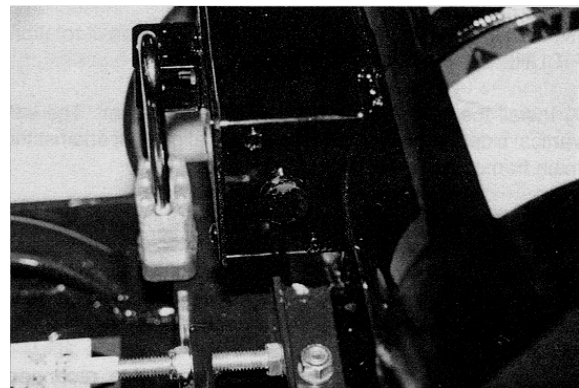

FIGURE 24
5) Providing proper voltage and amperage levels to the electric motor is essential to obtain maximum productivity and service life. Low voltage and amperage levels will cause the motor to overheat. The motor is equipped with an automatic thermal protection device that will stop it before major internal damage can result. After the motor has cooled to an acceptable temperature level, the switch must be manually activated to restart. FIGURE 24.